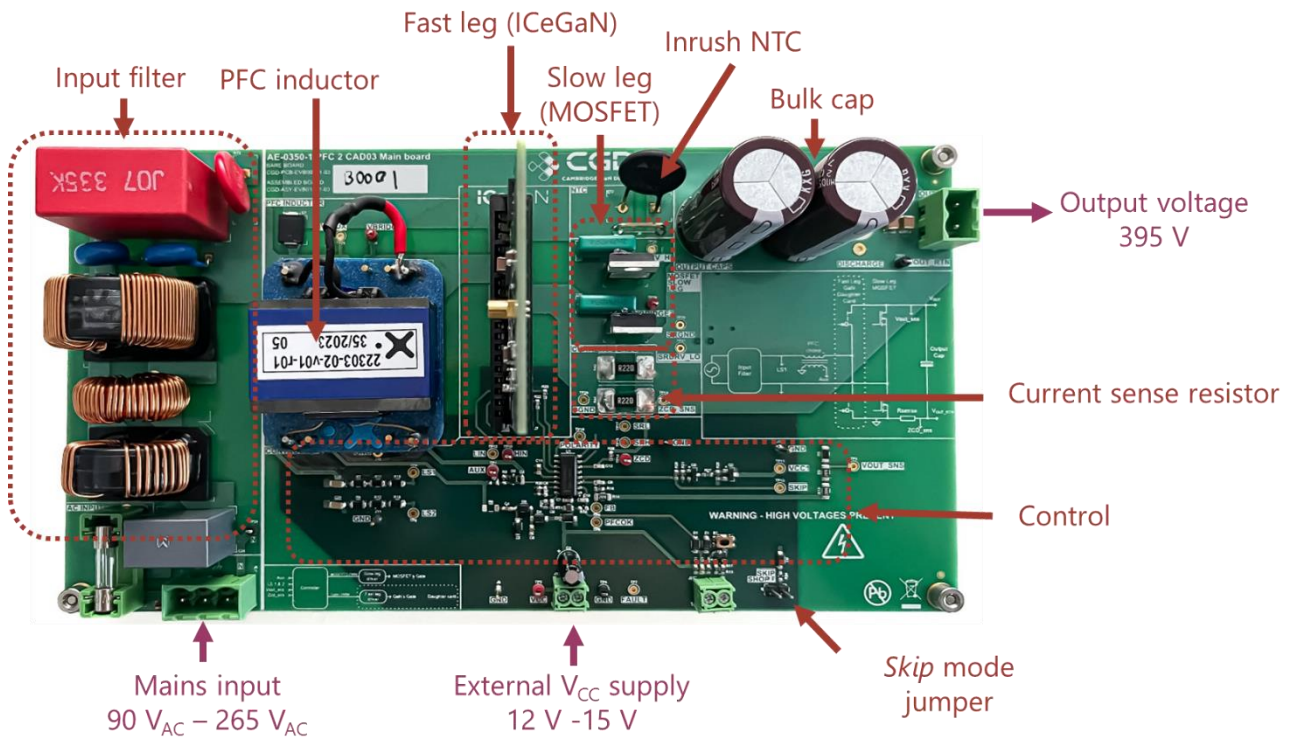
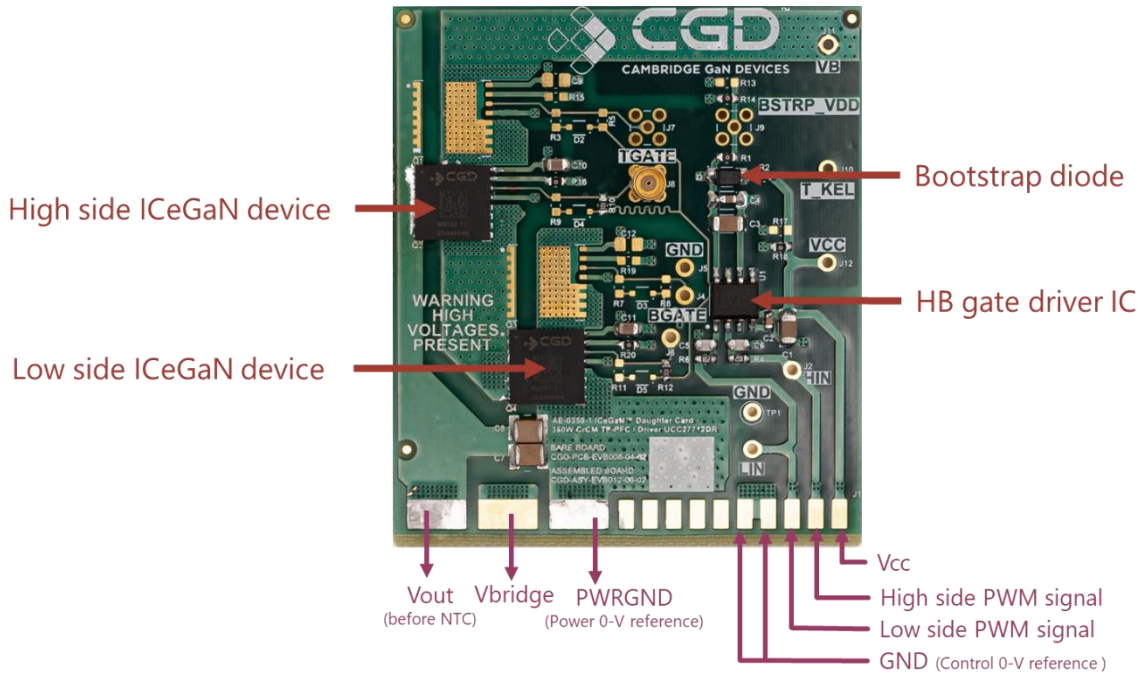

Figure 3 – Motherboard top view: main blocks and power connections
Figure 4 – Daughterboard top view
The motherboard and daughterboard are shown below in Figure 3 and Figure 4 respectively. To help operate the board, and make testing easier, the motherboard includes multiple I/O connectors which are described in Table 2 as well as test points listed in Table 3. In the same fashion, the daughterboard includes multiple test points and MMCX connectors listed in Table 4.
The daughterboard has been designed with the possibility to assemble ICGaN devices in parallel in both the high side (HS), and the low side (LS) of the TPPFC fast-leg. However, ICGaN parallel operation is out of the scope of this user guide, and all the test results present in this user guide were obtained with a single device on the HS and the LS, see Figure 4.